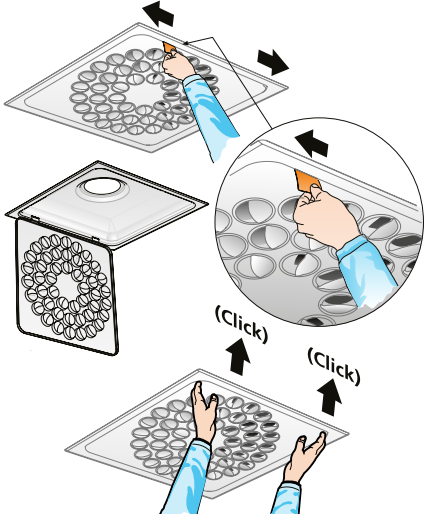

Figure 1. Quick Access, dismantling the diffuser face.
- Quick Access gives simpler and faster handling during installation, commissioning and cleaning, see Figure 1.
- To dismantle the diffuser face, insert a thin object, for example a Quick Access card, in between the diffuser face and the backing box in order to release the springs. Slide the card from the centre out towards the corners, see Figure 1.